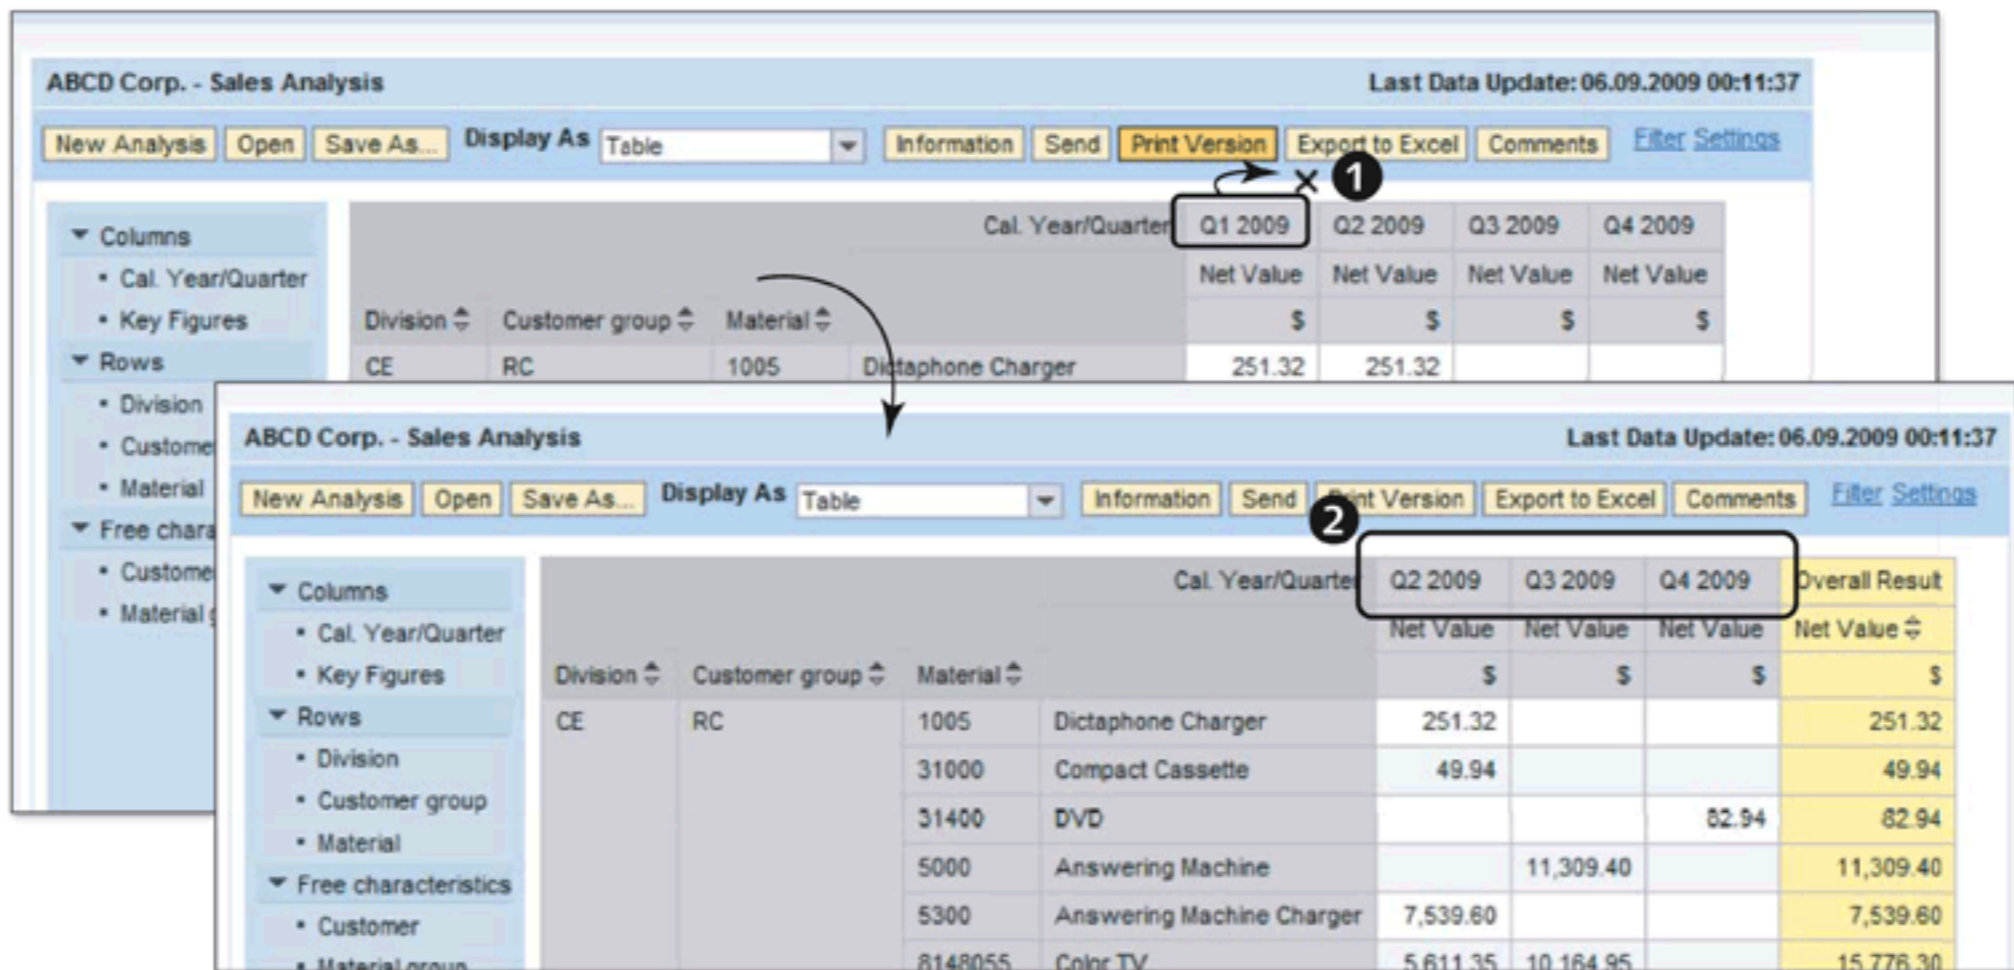

Figure 10.51 Navigation: Exclude Characteristic Value
In the example shown in Figure 10.51, if the analyst doesn't want the values for CAL. YEAR/QUARTER = Q1 2009 to be displayed in the analysis, he can remove this specific characteristic value by dragging the Q1 2009 characteristic value out of the layout (1 of Figure 10.51). This puts an exclusion filter on the CAL. YEAR/QUARTER characteristic, and the query result is modified according to this exclusion (2).